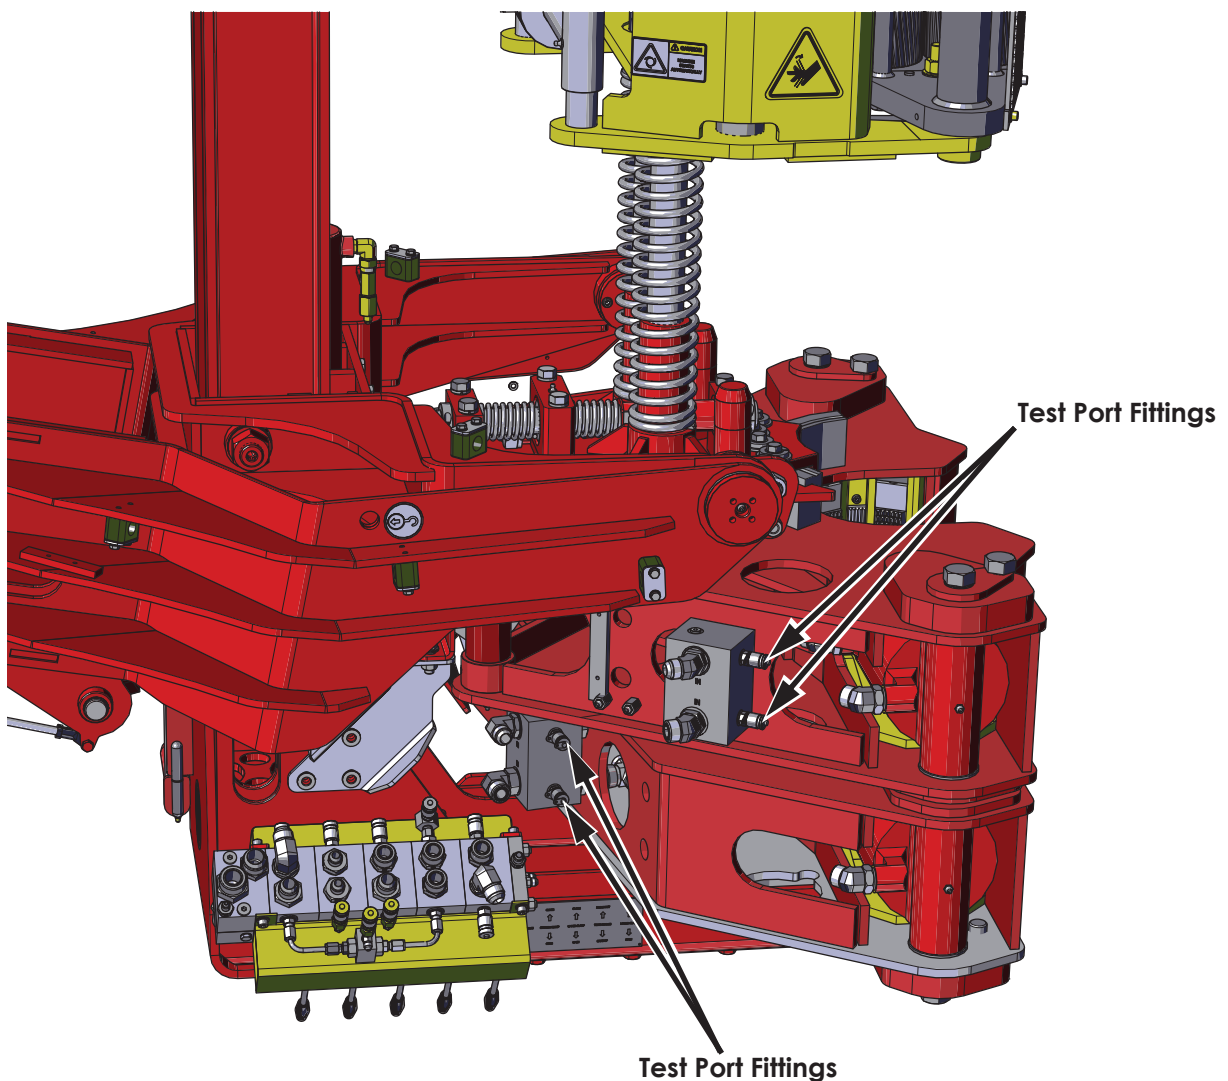

Figure 1: PO Test Port Fitting Locations on TM80
Exposed hydraulic pressure test port fittings on pilot-operated (PO) check valves mounted on the upper and lower tongs of the TM80 (see Figure 1) can be knocked loose by other equipment on the rig. High pressure fluid escaping from one of the ports with a loose fitting could cause serious injury to personnel.